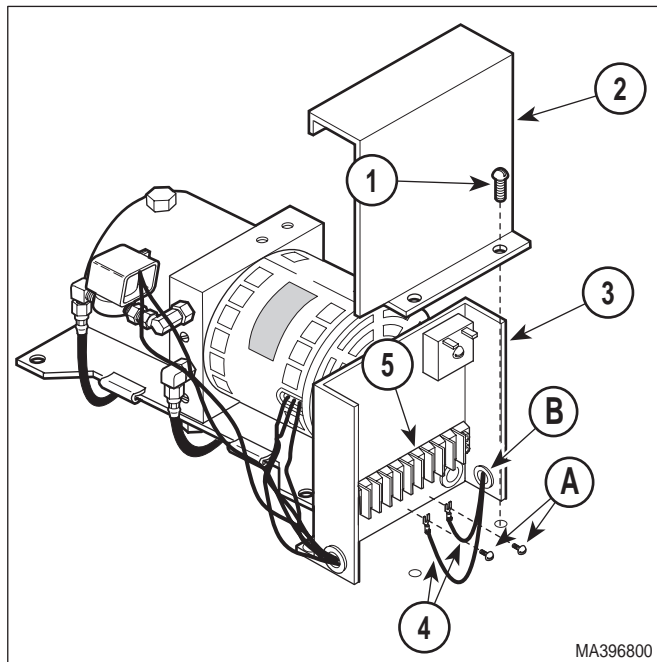
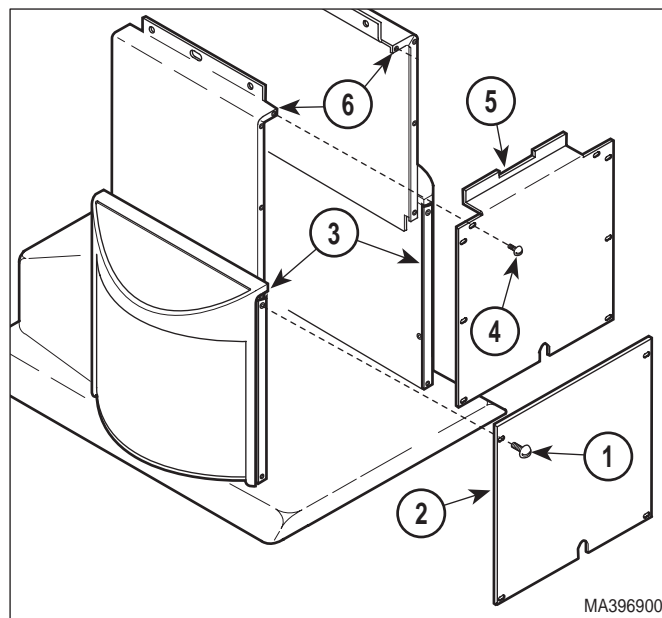
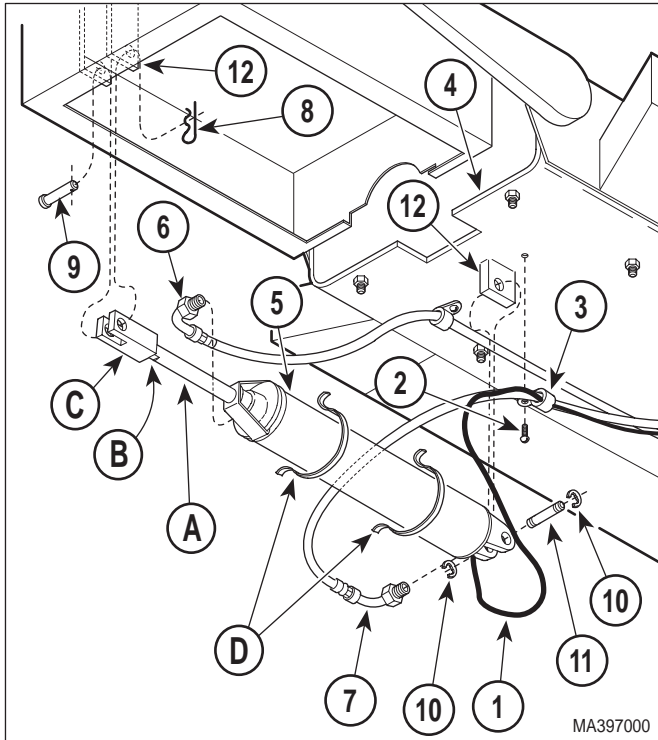

Figure 4-20. Foot Cylinder Wire Disconnection / Connection
Figure 4-21. Shrouds Removal / Installation
Figure 4-22. Foot Cylinder Removal / Installation
- (1) If possible, raise FOOT UP function all the way up.
- (2) Unplug table power cord from outlet.
- (3) Remove motor cover assembly (Refer to para 4.2).
- (4) Remove two screws (1, Figure 4-20) and control cover (2) from control panel (3).
- (5) Loosen two terminal screws (A); then tag and disconnect two foot cylinder wires (4) from terminal block (5).
- (6) Pull foot cylinder wires (4) out thru wire hole (B).
- (7) Remove four screws (1, Figure 4-21) and front outer shroud (2) from left and right hand outer shrouds (3).
- (8) Remove eight screws (4) and front inner shroud (5) from left and right hand inner shrouds (6).
- (9) Cut cable ties (D) securing foot cylinder wire harness (1, Figure 4-22).
- (10) Remove screw (2) and wire clip (3) securing foot cylinder wire harness (1) to seat weldment (4).
- (11) Cut cable ties securing hose assemblies to foot cylinder (5).
- (12) Disconnect hose assembly (6) from foot cylinder (5).
- (13) Disconnect hose assembly (7) from foot cylinder (5).
- (1) Install foot cylinder (5, Figure 4-22) on brackets (12) and secure with clevis pin (11), two E-rings (10), clevis pin (9), and hitch pin clip (8).
- (2) Connect hose assembly (7) to foot cylinder (5).
- (3) Connect hose assembly (6) to foot cylinder (5).
- (4) Secure hose assemblies (6 and 7) to foot cylinder (5) with cable ties.
- (5) Secure foot cylinder wire harness (1) to seat weldment (4) with wire clip (3) and screw (2).
- (6) Feed foot cylinder wires (4, Figure 4-20) thru wire hole (B) in control panel (3).
- (7) Connect two foot cylinder wires (4) to terminal block (5) and secure with two terminal screws (A).
- (8) Install control cover (2) on control panel (3) and secure with two screws (1).
- (9) Plug table power cord into outlet.
- (10) Raise FOOT UP function all the way up.
- (11) If foot section *is not* level with seat section when FOOT UP function is completely raised, perform steps 12 thru 14. See Figure 4-22. If foot section *is* level when the FOOT UP function is completely raised, go to step 15.
- (12) Lower FOOT DOWN function down until cylinder rod is extended halfway.
- (13) Place a wrench on adjusting seats (B) of cylinder rod and use it to rotate cylinder rod to adjust clevis (C) up or down as necessary.
- (14) Repeat steps 10 thru 14 until foot section is level with seat section when FOOT UP function is completely raised.
- (15) Install any cable ties (D) removed during removal.
- (16) Install front inner shroud (5, Figure 4-22) on left and right hand inner shrouds (6) and secure with eight screws (4).
- (17) Install front outer shroud (2) on left and right hand outer shrouds (3) and secure with four screws (1).